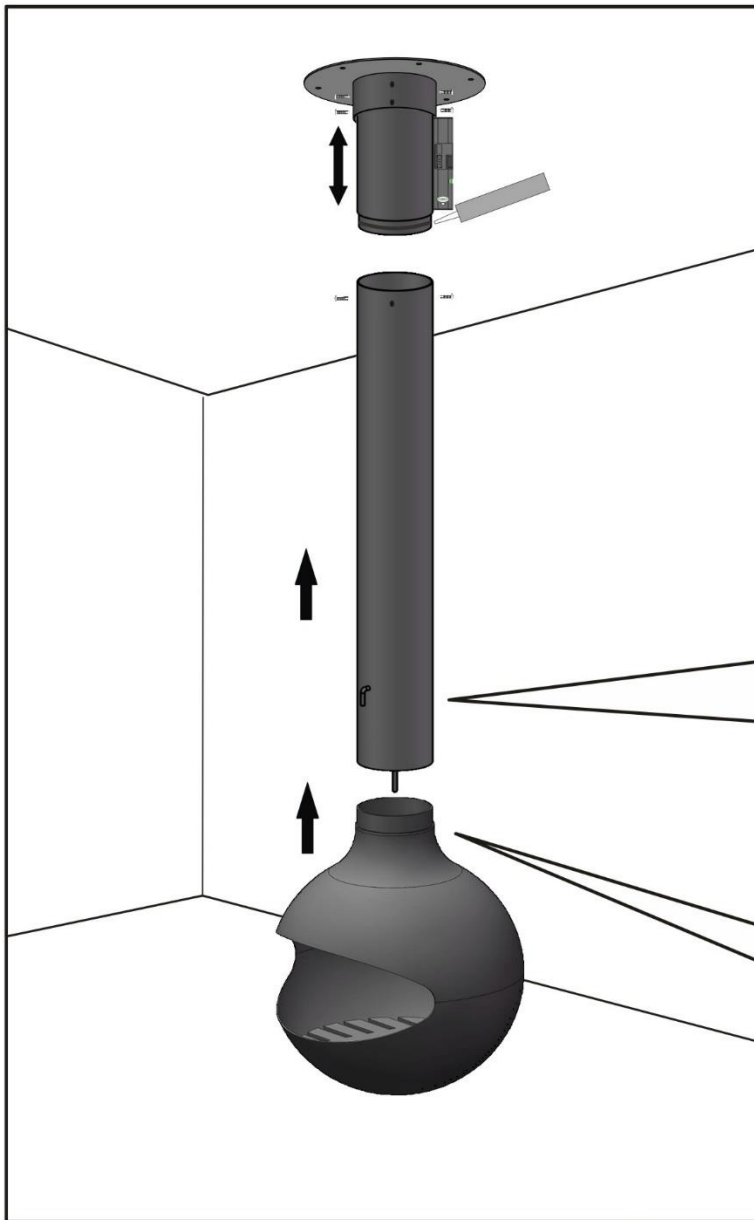

Figure 4
③ Adjust the chimney to the required length, vertical placement chimney, screw down the chimney and flange as shown in figure 4.